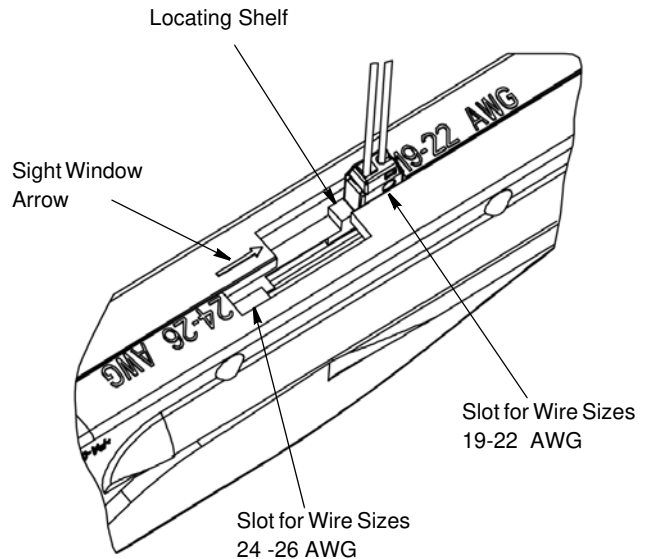

Figure 4
4. GAGING THE CONNECTOR (Figure 4)